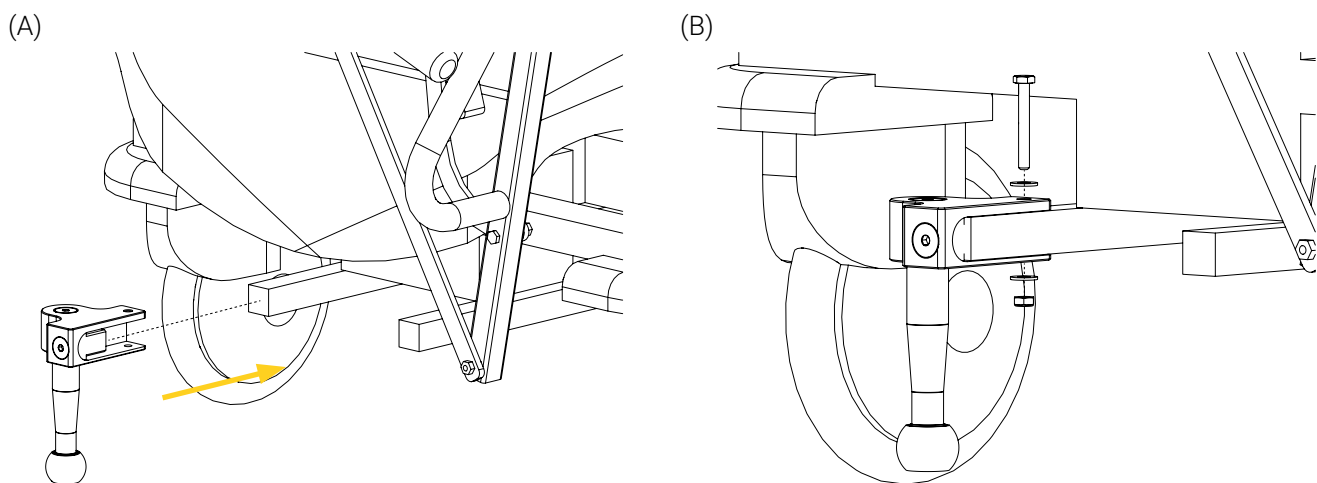

Figure 33: Installing the Head End Anchoring Hitch on the stretcher frame
11. Insert the Head End Anchoring Hitch on the tip of the stretcher frame at patient head end, then align the screw holes of the hitch with those of the frame (Figure 33 A).
12. From above the Head End Anchoring Hitch, place a 1/4 in. ID X 5/8 in. OD flat washer and insert a 1/4 in.-20 X 2 in. L hex bolt in the screw hole, then from under the Head End Anchoring Hitch, insert a 1/4 in. ID X 5/8 in. OD flat washer and a 1/4 in.-20 D nut on the bolt stem and hand tighten (Figure 33 B).